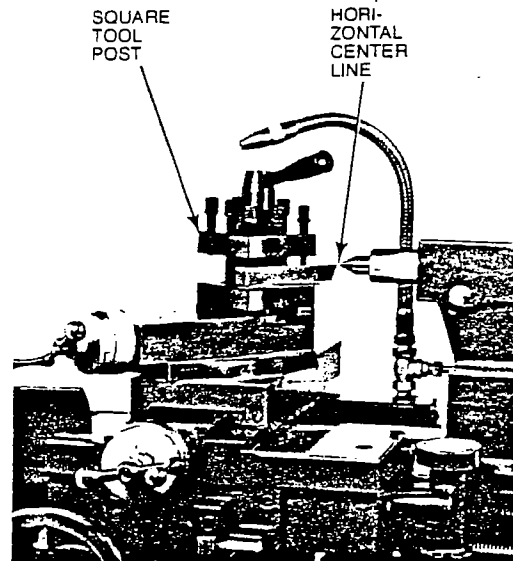

FIGURE 20
The square tool post (Figure 20) holds cutting tools in position for cutting operations. Place tool's cutting edge on horizontal center line of lathe. Then clamp tool securely in turret, with cutting end as close to holder as work permits. This minimizes overhang and improves quality of cut.
3. Lock the carriage by means of carriage lockscrew (Figure 20).
Before moving carriage longitudinally, be sure the carriage lockscrew is loose (Figure 20).